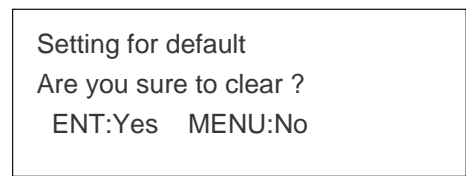

Figure 9-4
- 3) Press ► to select Yes. The message shown in Figure 9-4 appears.